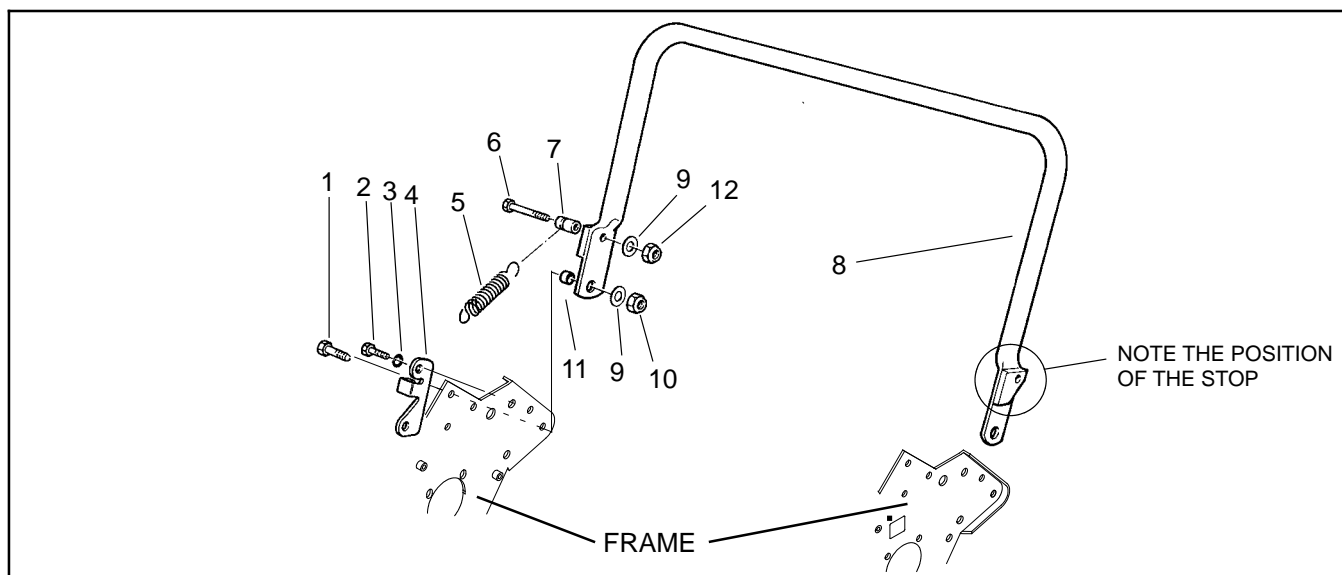

Figure 16
4. Remove both lock nuts (10), flat washers (9), cap screws (1), and spacers (11) from the kickstand (8) and frame. Remove kickstand from the frame (Fig. 16).
2. Position kickstand (8) inside the mower frame. Insert capscrews (1) through the frame, spacers (11), and kickstand (Fig. 16).
3. Secure cap screws (1) with flat washers (9) and lock nuts (10). Tighten fasteners (Fig. 16).